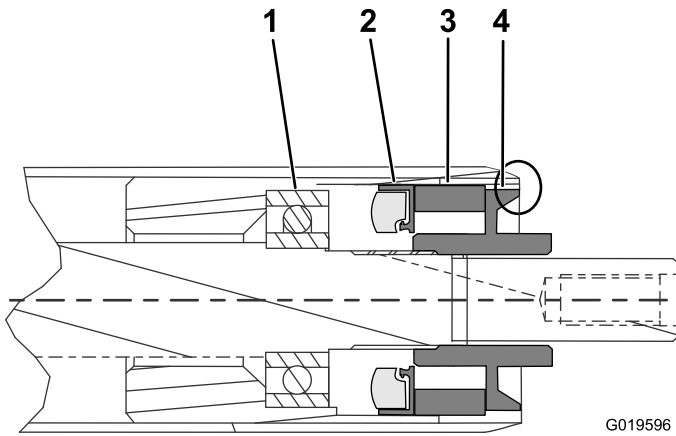

Figure 4
12. Install the nuts onto the ends of the roller. Tighten the nuts until they are flush with the end of the roller tube (Figure 4).